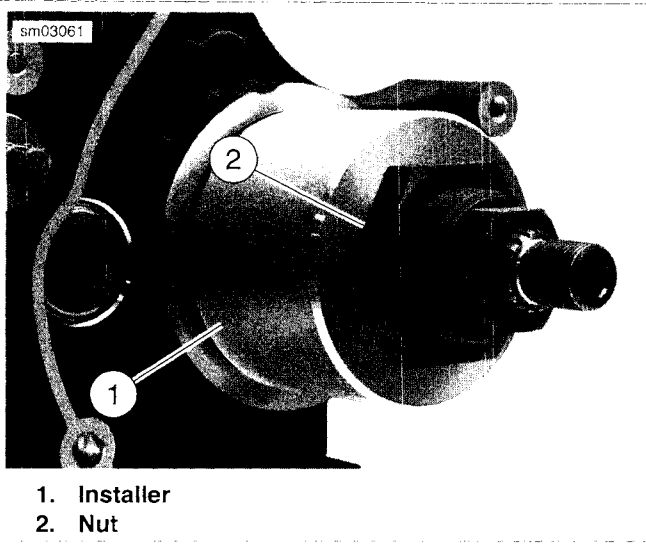
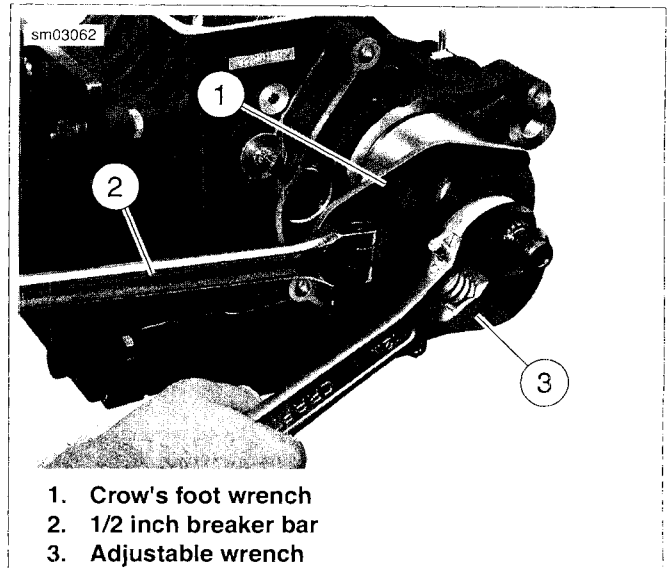

Figure 6-47. Installer and Nut
Figure 6-48. Press Seal Into Crankcase
5. See Figure 6-47. Slide **INSTALLER** (Part No. HD-47856-1) (1) over adapter until cupped end of installer is flat against seal.
6. Thread **NUT** (Part No. HD-47856-6) (2) onto end of adapter, until it tightens against installer.
7. See Figure 6-48. Place **CROW'S FOOT WRENCH** (Part No. HD-47856-7) (1) with 1/2 inch drive breaker bar (2) on large nut. Place an adjustable wrench (3) on flats of hex head cast into end of adapter.